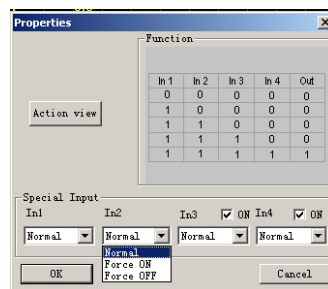

Fig 4.8 Dialog Box of Property setup
2. When the mouse be moved to input & output port, the shape of the mouse is “+”, this means you can press the left button of the mouse to confirm one dot of the link, at that time press left button of the mouse once and move it to the output port (input port) of the next module., system could set up link automatically, as shown in fig4.8: